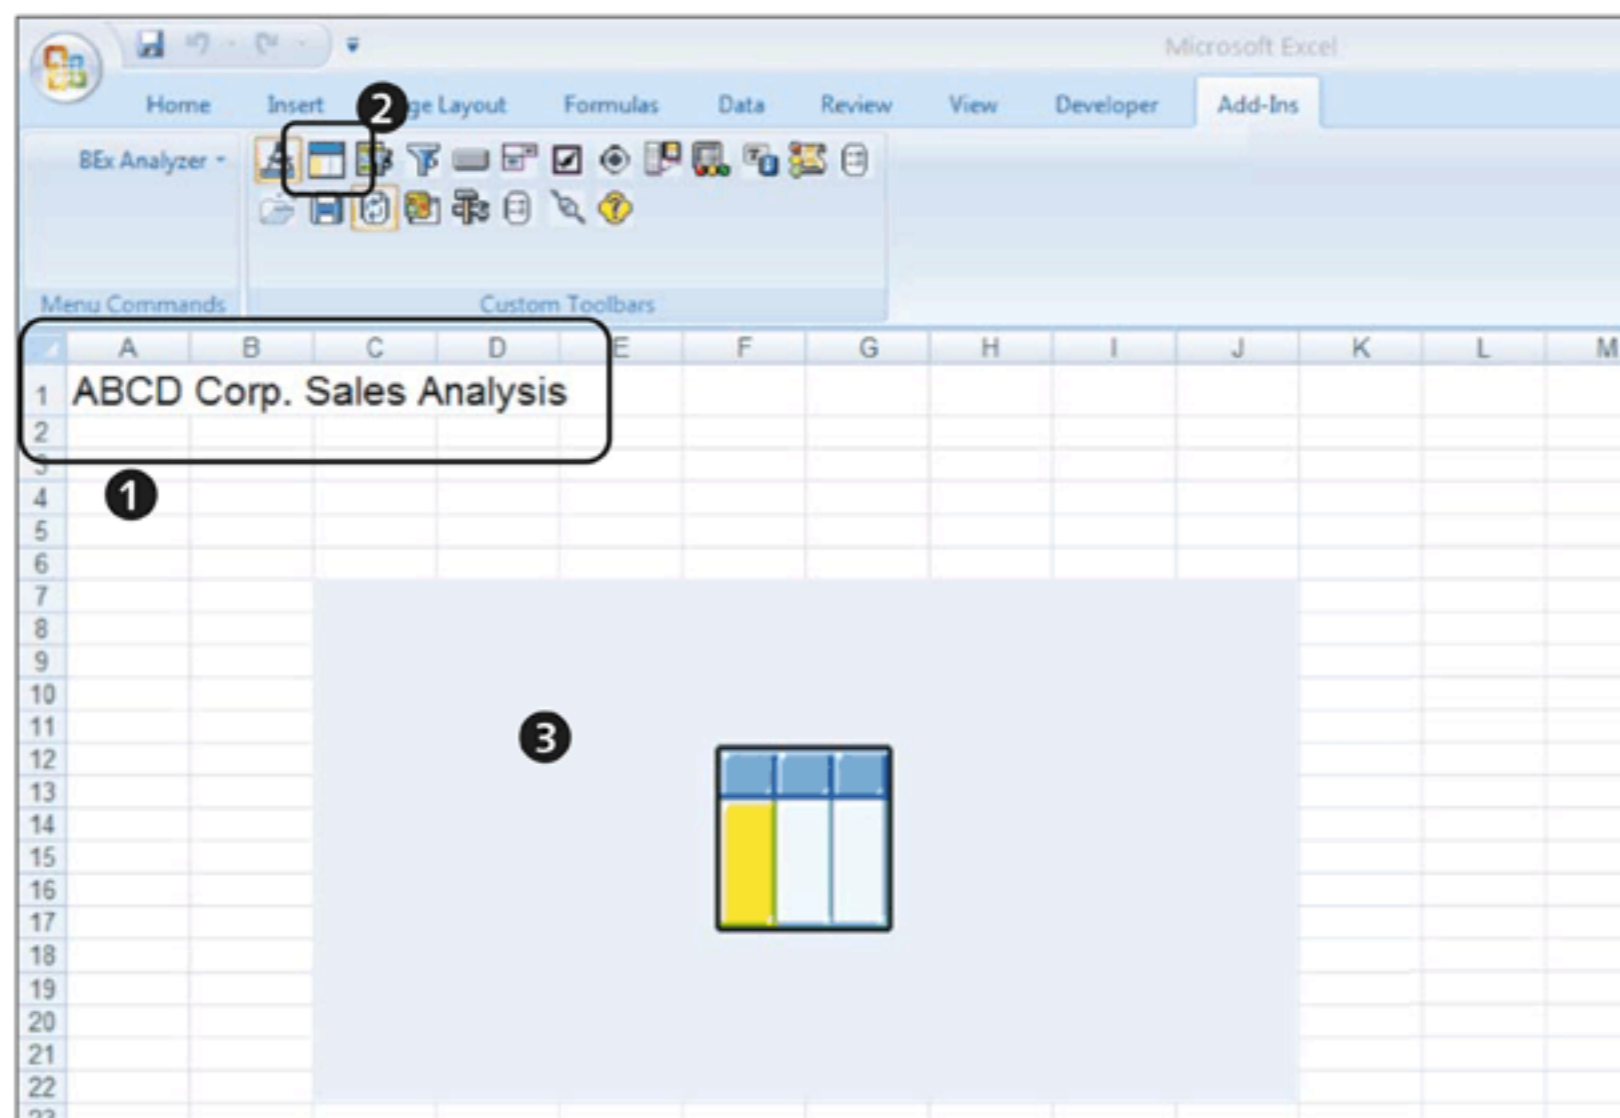
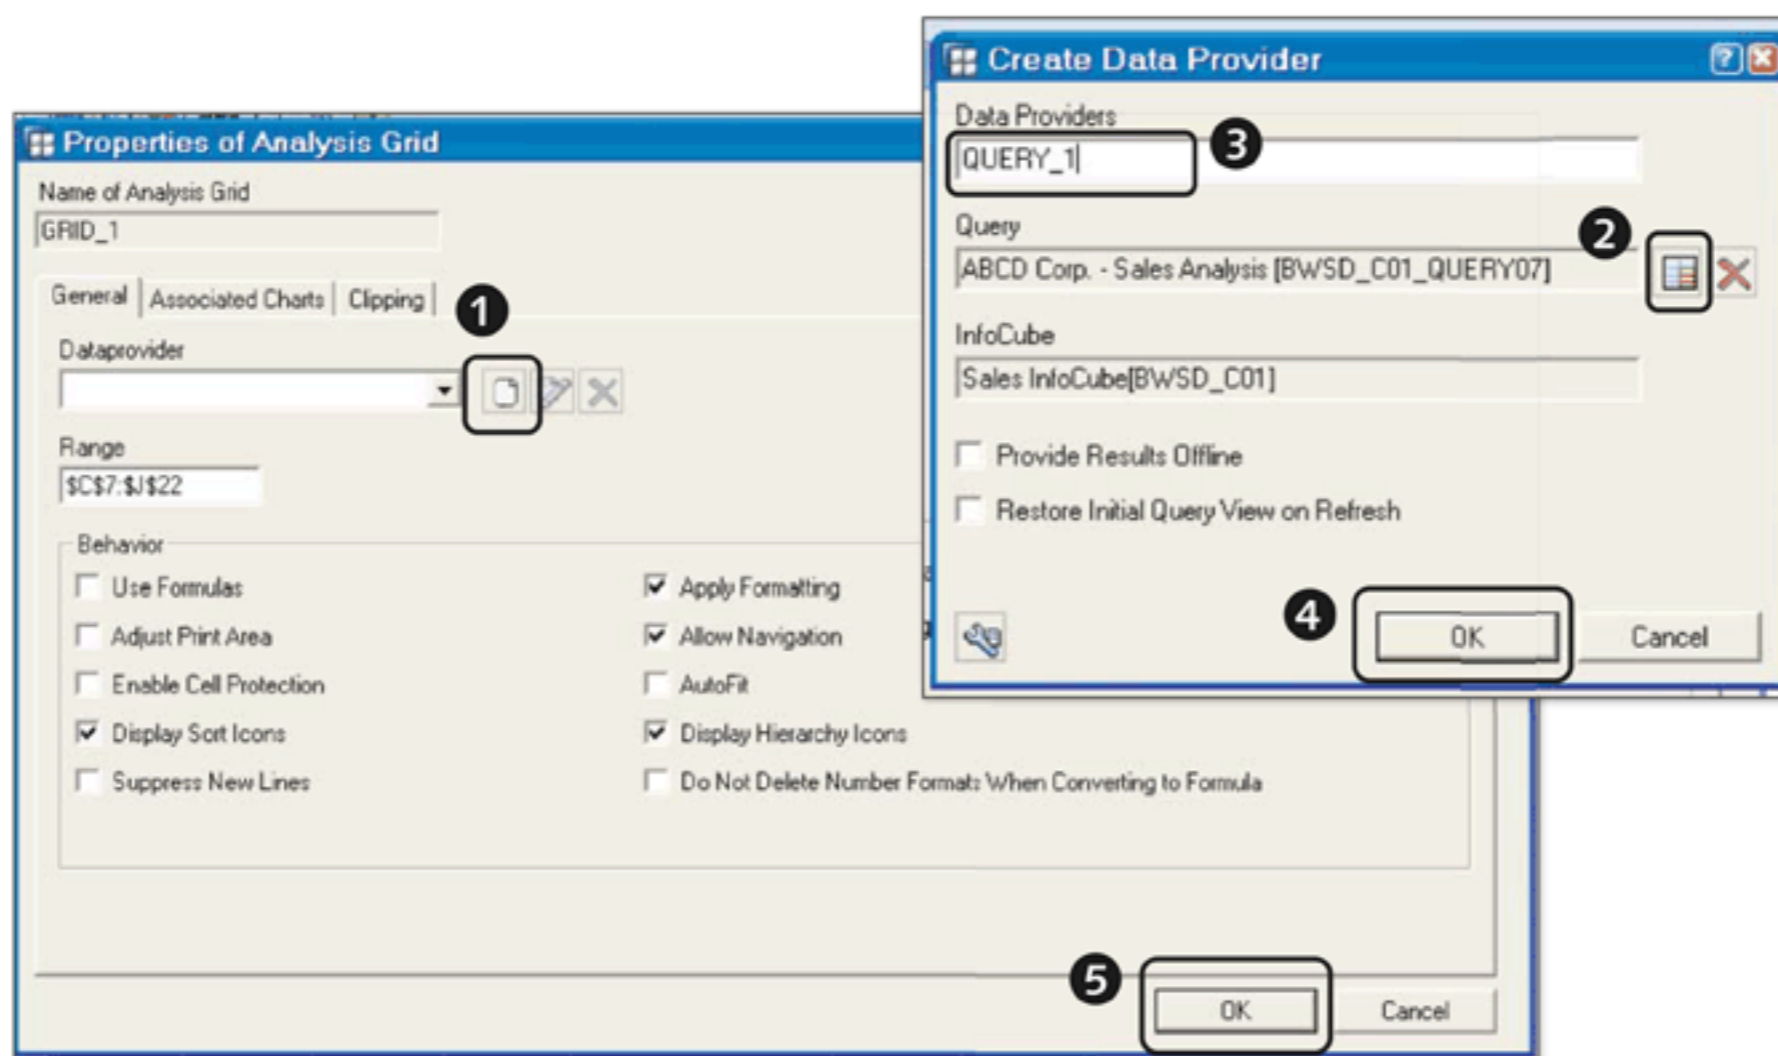

Figure 10.29 Insert Analysis Grid
Figure 10.30 Set Properties of an Analysis Grid
To create this custom analysis application, log in to BEx Analyzer, and open a new Excel sheet from the Excel menu. This will enable all of the functions on the BEX DESIGN toolbar. Enter the heading “ABCD Corp. Sales Analysis” for the workbook, as shown in **1** of Figure 10.29.
To insert the analysis grid design item in the workbook, click on the button shown in **2** of Figure 10.29. This adds the analysis grid to the workbook (**3**). Double-click on the design item to call the properties dialog as shown in Figure 10.30. You must assign a data provider to the analysis grid, which acts as a source of data to the design item. Create a new data provider by clicking on the button
shown in ❶ of Figure 10.30. When you click on the CREATE button, another pop-up appears. Based on our example scenario, we assign the SALES ANALYSIS query to the data provider using button ❷ of Figure 10.30. Finally, give a name to the data provider (❸), and click on OK (❹) to return to the properties screen. After the assignment of the data provider is complete, you can also define some additional settings for the analysis grid by selecting appropriate checkboxes, as shown in Figure 10.30. Finally, click on the OK button (❺) to return to the workbook.